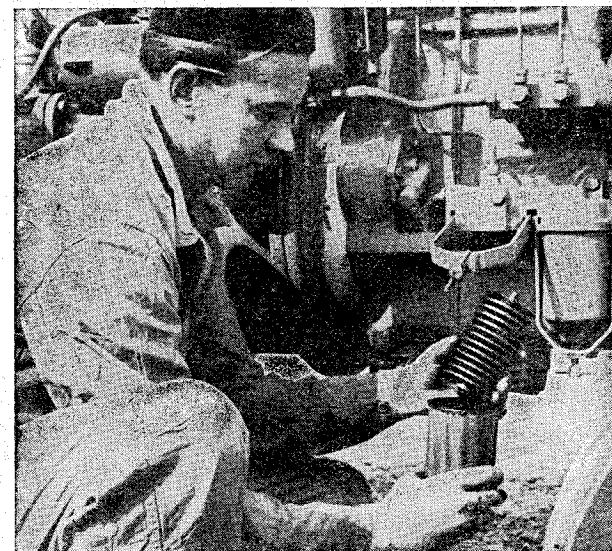

Fig. 35.
1. Slightly slacken the clamp bolt of the filter bowl I, swing clear the clamp and remove the bowl (see Fig. 35).